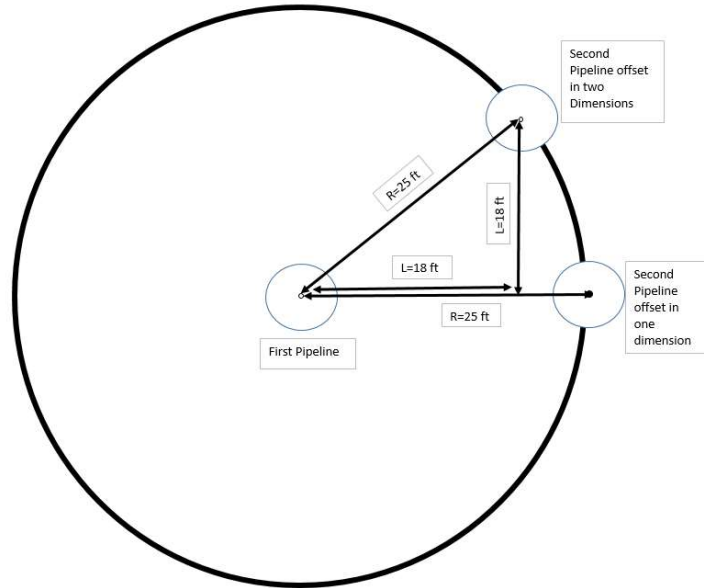

Figure 1: Three-Dimensional Separation Example
6. All sanitary sewer and pressurized water lines will be installed with encased, rigid, non-metallic conduit the full width of Williams right of way. Per on site personnel, conditions may warrant (spanning issues, shoring) steel conduit across the width of the ROW when pipelines are exposed. Gravitational flow systems will be either: (1) ductile iron or steel pipe (adequately protected from Williams cathodic protection system), (2) plastic pipe installed in steel casing, or (3) concrete pipe for the full width of Williams right of way. No piping connections will be allowed within 5' of any Williams pipeline. All ductile iron utility crossings will include restrained joints for the full width of Williams right of way.
16. An example scenario for three-dimensional separation would be 18 feet lateral separation and 18 feet vertical separation, which would result in approximately 25 feet separation. See Figure 1.